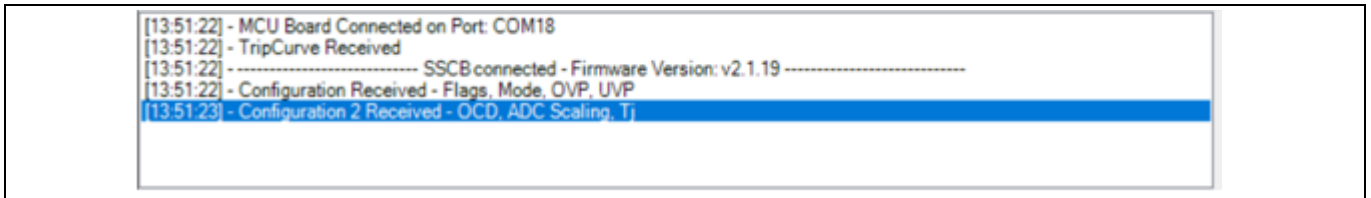

Figure 25 GUI status message on successful connection
5. Successful connection with GUI shows status messages as shown in Figure 25.